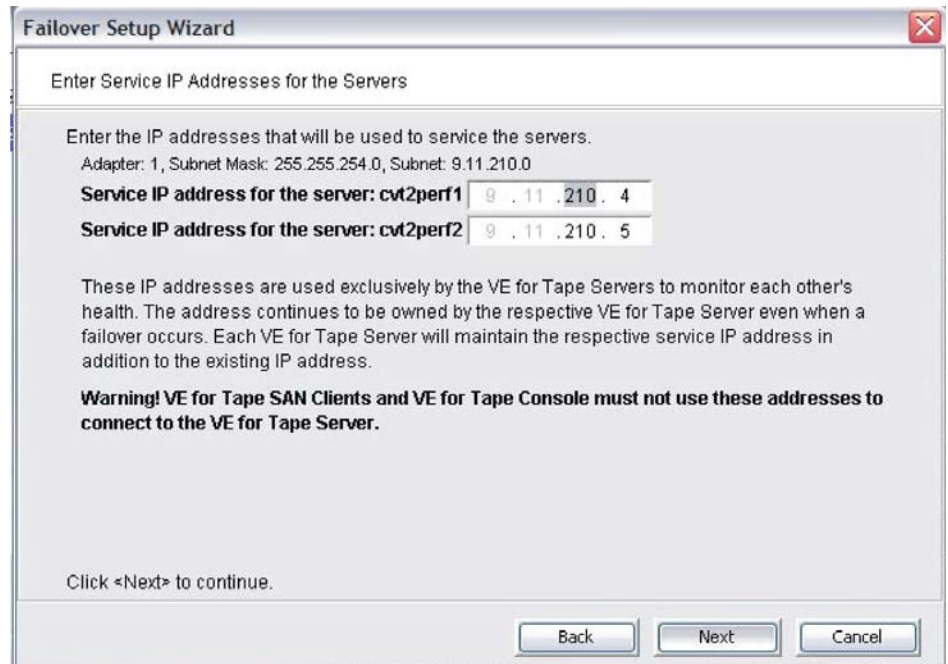

Figure 60. Entering or confirming service IP addresses for adapter 1
- If the Enter the IP addresses of the Servers (Adapter 1) window (Figure 60 on page 77) opens, proceed to step 11 on page 75
- ___ 12. In the Enter Service IP addresses for the Servers (Adapter 1) window (Figure 60 on page 77), do the following: